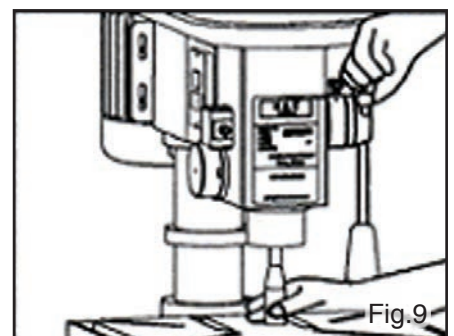

Fig.9
- Insert the arbor into the spindle first. Pull the feeding handle down to press the arbor inward. Fig. 9.